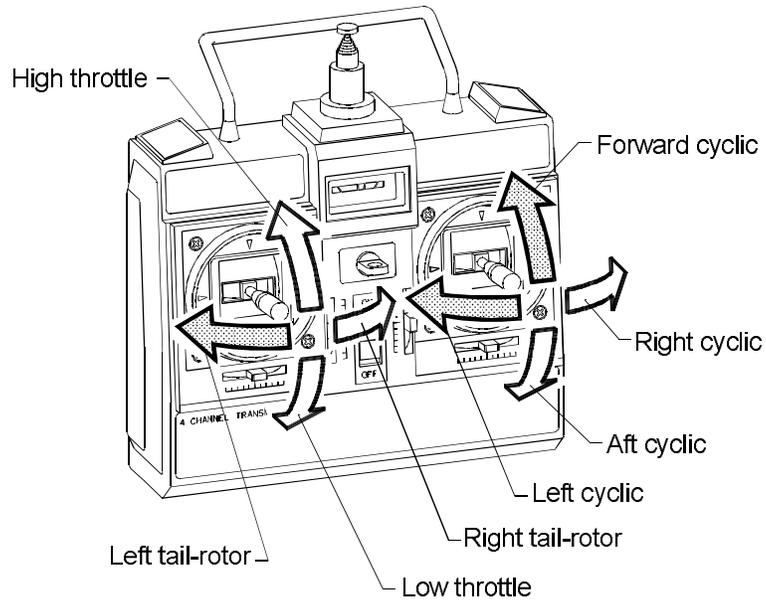

Figure 12-4.
- 14. Referring to Fig. 12-4 and 12-5, check that each control on the transmitter moves the correct servo in the correct direction. If any servo rotates in the wrong direction, flip the servo-reversing switch on the transmitter corresponding to that servo.